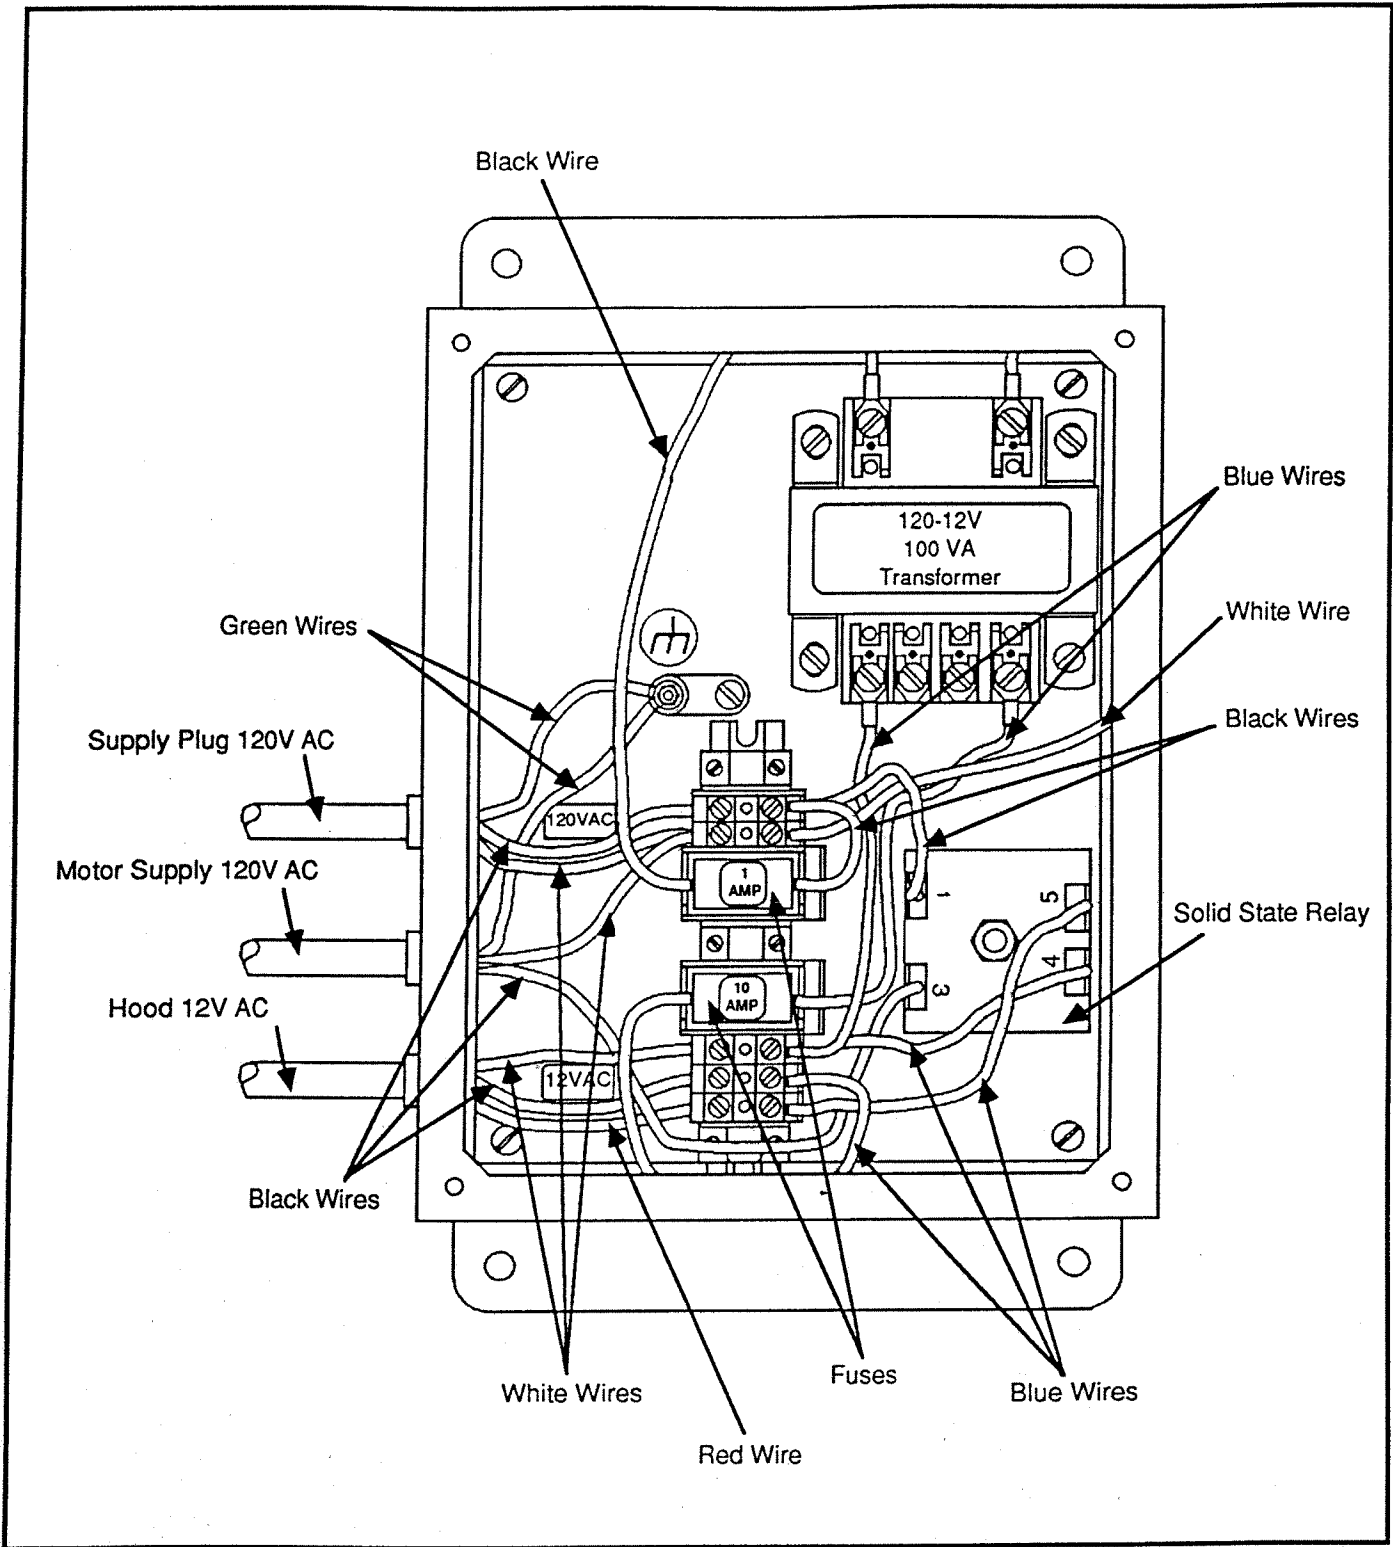

Figure 6
4. Flex-Trunk (Bench Mount) is not installed onto collector opening.	4. Install Flex-Trunk onto collector following the Flex-Trunk Pre-Installation Section 2.4 in this manual. See Figure 6 and bolt down securely.